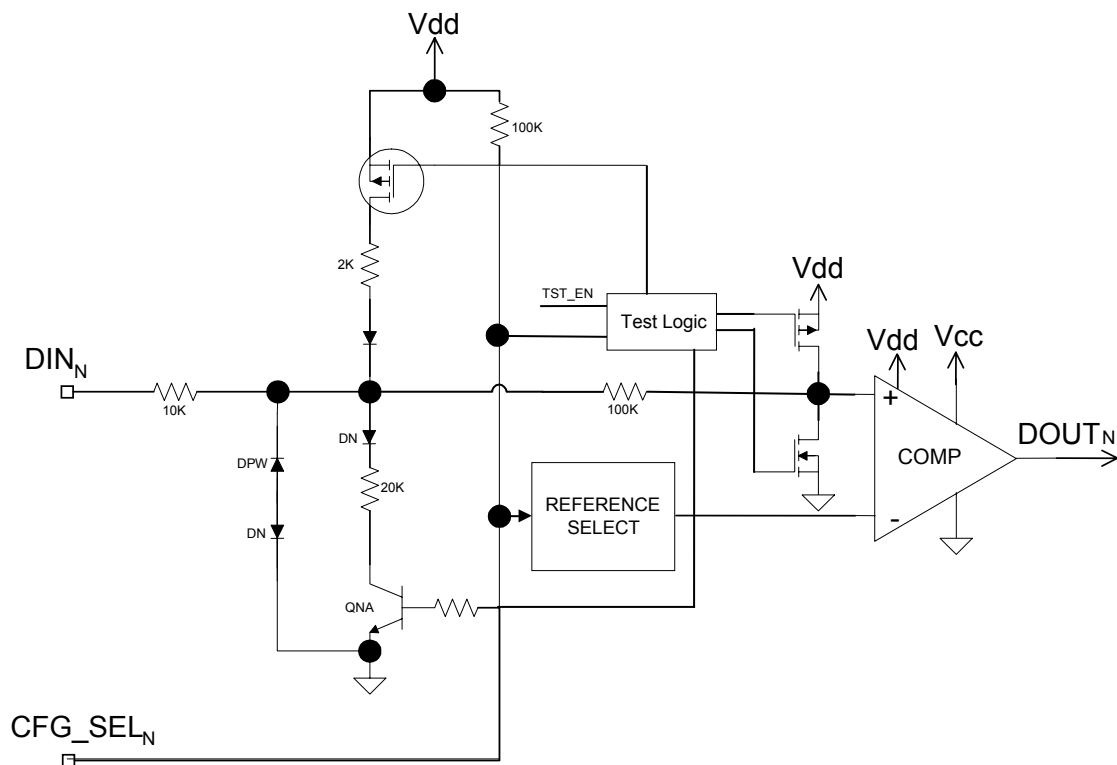

Figure 3 Discrete AFE Function Diagram
The Discrete Input Analog Front End circuit function is represented in Figure 3. Each DIN_n signal is conditioned by the resistor / diode network and presented to a comparator with hysteresis. When the input is configured for GND/OPEN operation, the pull-up resistor and diode are enabled and comparator threshold voltage is selected. When the input is configured for 28V/OPEN operation, the pull-down resistor is enabled and the comparator is appropriately configured. Prior to configuration (after power up), neither pull-up nor pull-down is enabled and the AFE presents a high impedance (Hi-Z).
Bit 9 of the Configuration Register (CR) is used to enable or disable Built-in Test (1 = BIT enabled, 0 = Normal). When BIT is enabled, each channel configuration bit value is used to drive a test stimulus on the respective channel comparator (see Figure 3). Thus all channels can be tested by setting the BIT mode, programming test stimulus patterns into the CR, and reading the results from the DR. The DIN inputs are placed in Hi-Impedance mode (pull up and pull down switches are OFF) during test mode, so the test does not interfere with the DIN signals. The BIT test stimulus is isolated from the DIN pin by 100K Ω .